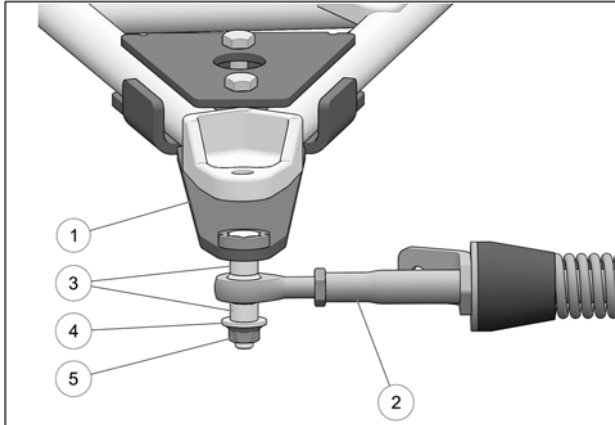

Fig. 16
7. Attach the stabilizing rod (2) to the anchor bracket (1), using the two spacer bushings (3), flat washer (4) and nut (5). Torque to 70 N•m [52 lb•ft]. Refer to Fig. 16